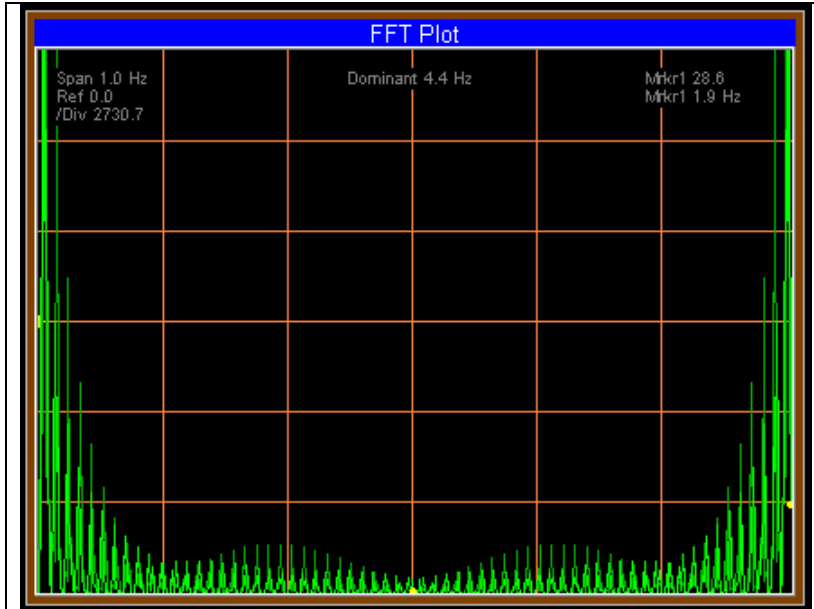

Figure 3-33 FTT Plot Widget (History Plots)
The **FTT Plot** widget, shown in Figure 3-33 below, displays the frequency spectrum calculated via an FTP algorithm applied to a single parameter from up to twelve (12) streams, including formulas and functions. To access the controls for the spectrum display, place the mouse cursor within the plot grid and right click to invoke the controls menu shown right. The FTP algorithm applied to a single parameter can